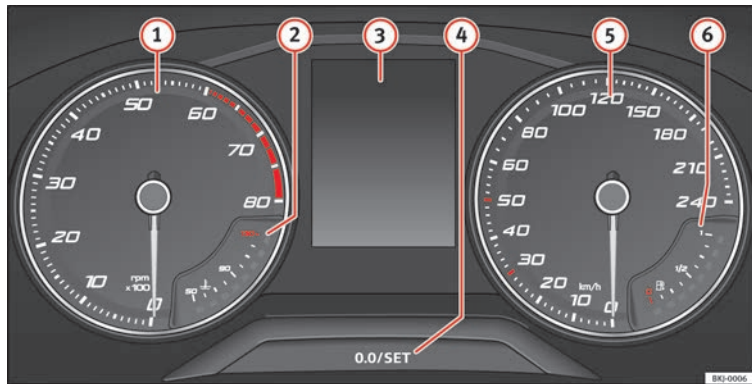

Fig. 106 Instrument panel, on dash panel.
The rev counter indicates the number of engine revolutions per minute » **Fig. 106 ①**.
Never allow the rev counter needle **①** » **Fig. 106** to go into the red zone on the scale for more than a very brief period, otherwise there is a risk of engine damage.
A variety of information can be viewed on the instrument panel display » **Fig. 106 ③** depending on the vehicle equipment:
- Briefly press the button » **Fig. 106 ④** to reset the trip recorder to 0.
- Keep the button **④** pressed for about 3 seconds and the previous value will be displayed.
- To set the time, keep the button » **Fig. 106 ④** pressed for more than 3 seconds to select the hour or minute display.
- To continue setting the time, press button **④**. Hold button down to scroll through the numbers quickly.
- Press the button **④** again in order to finish setting the time.
Hold the button »» **Fig. 106**  down for more than 15 seconds to display the identifying letters of the vehicle engine (MKB). To do this, the ignition must be switched on and the engine switched off.
The coolant temperature gauge  » **Fig. 106** only works when the ignition is switched on. In order to avoid engine damage, please read the following notes for the different temperature ranges.